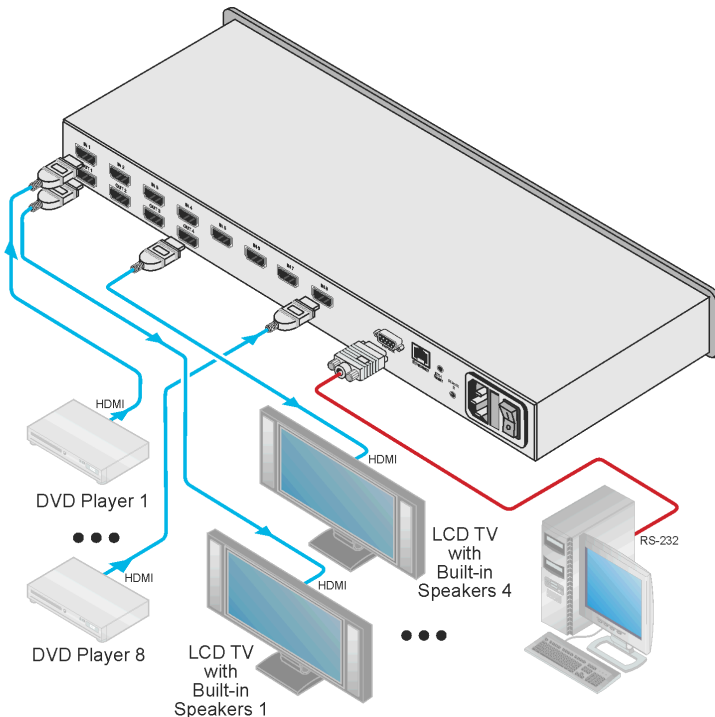

Figure 3: Connecting the VS-84H 8x4 HDMI Matrix Switcher
To connect1 the VS-84H 8x4 HDMI Matrix Switcher as illustrated in Figure 3:
4. Connect the device to the mains electricity (not shown in Figure 3).